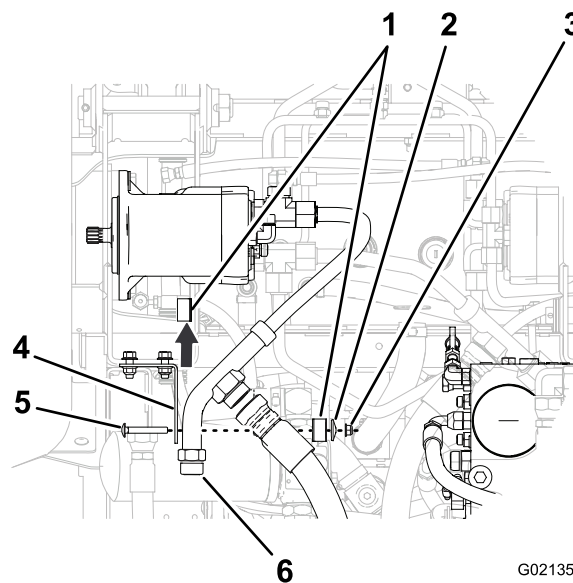

Figure 4
1. Remove the bolt, nut, and clamp plate that secure the clamp-block halves and the divider tube to the support bracket (Figure 4).
2. Remove the clamp-block halves (Figure 4).